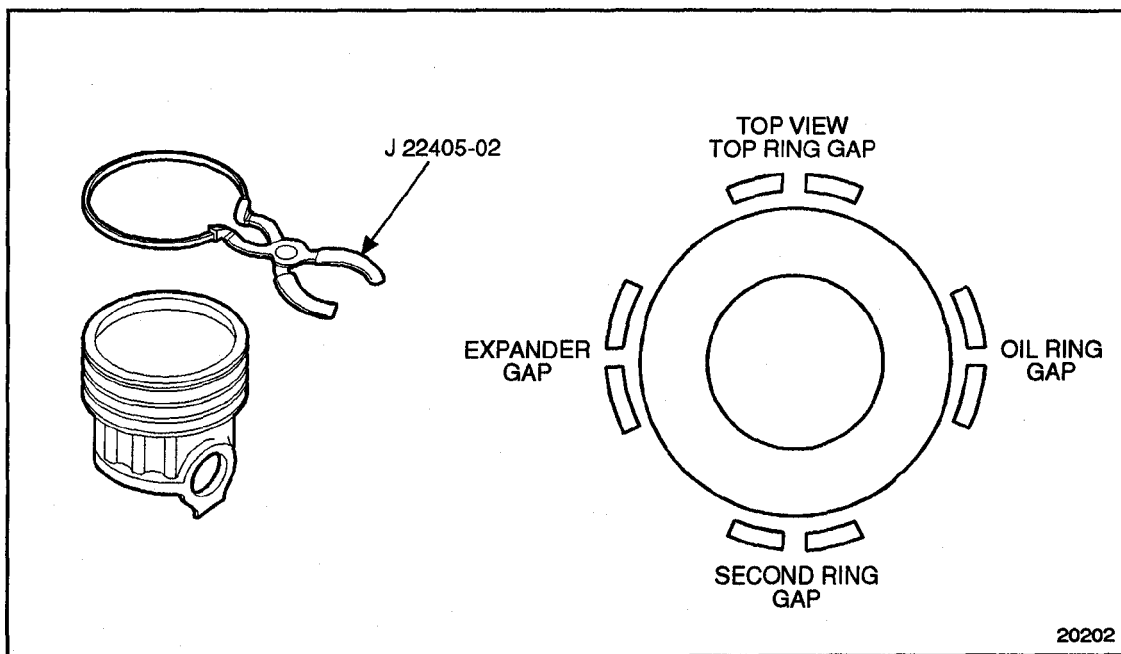

Figure 1-251 Piston Ring Positioning (Diesel)
1. Starting with the compression ring (second groove), install the compression ring and fire ring with tool J 22405-02. See Figure 1-251. Make sure the identifying dimple on the rings is installed up, toward the dome of the piston. See Figure 1-242 for ring identification and locations.
2. Stagger the ring gaps around the piston. See Figure 1-251.